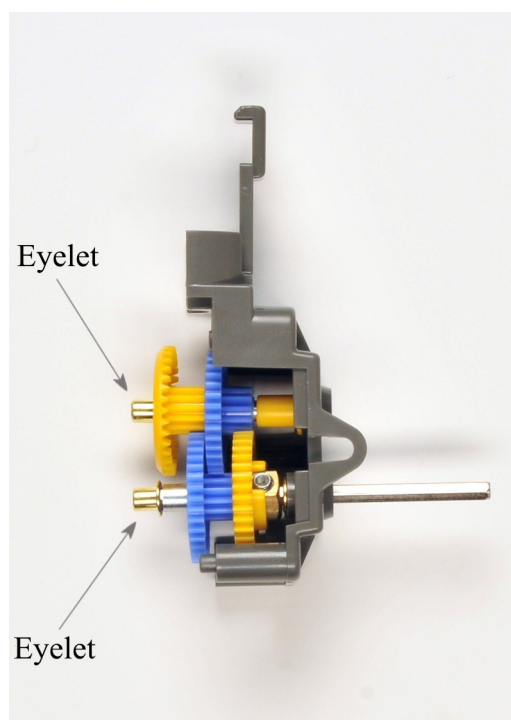

Figure 1.19
16. Place an eyelet onto both the smooth and hex shaft, as shown in figure 1.19.